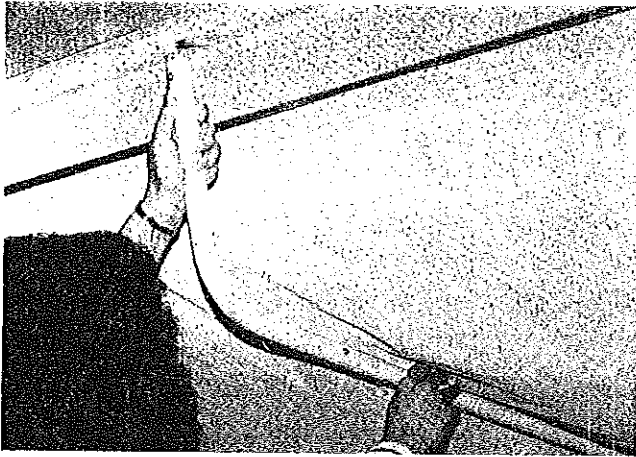

Figure 35
11. Detach both front and rear bed bow supports from the roof retainer and from the bed bow. Lay the bed bow supports under each mattress. See Figure 35.